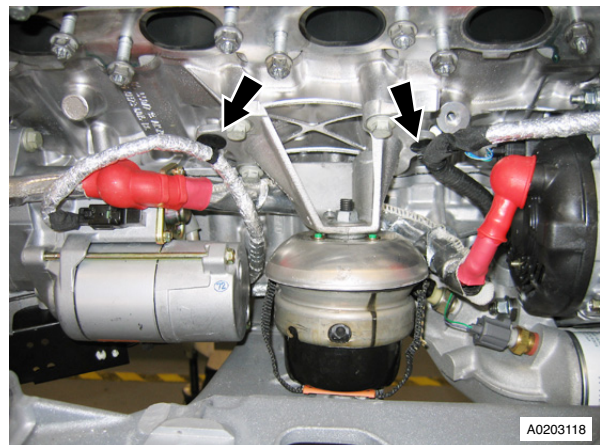

Fig. 2
- Remove harness clips (x2) (see Fig. 2 - RHS shown).